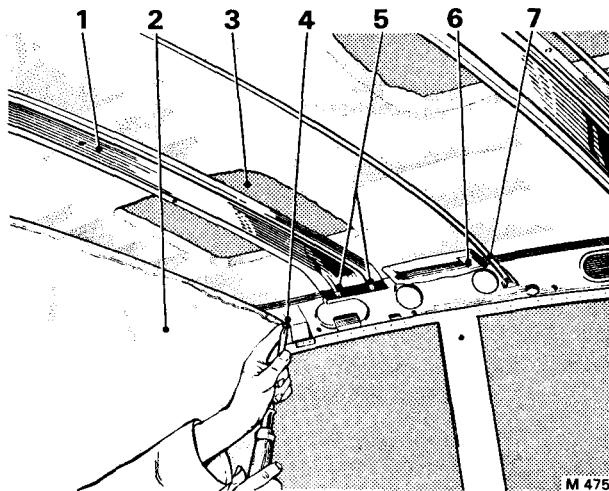

FIG. S117 FITTING A HEAD LINING LISTING BAR (4-Door Saloon and Long Wheelbase Cars)
1. Before commencing to fit the head lining, check the tightness of the screws securing the roof stays and anti-drum pads (see *Fig. S117*); tighten the screws if necessary.
2. When fitting the listing (see *Fig. S117*) bars do not fully tighten the securing screws until all the listing bars are in position.